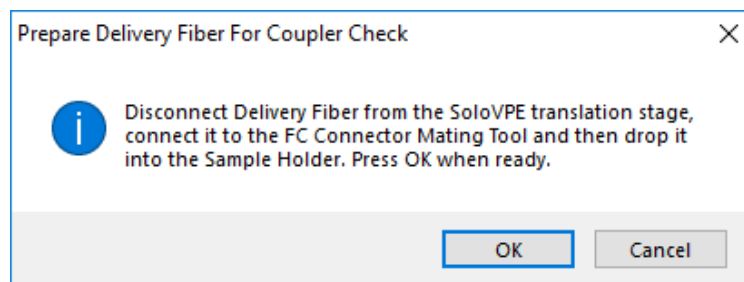

Figure 33. Prepare Delivery Fiber for Coupler Check window prompt.
2. Click the Coupler Check button to baseline the Quick Check Diagnostics Check. A prompt will appear with the instructions "Prepare Delivery Fiber for Coupler Check," as seen in Figure 33.